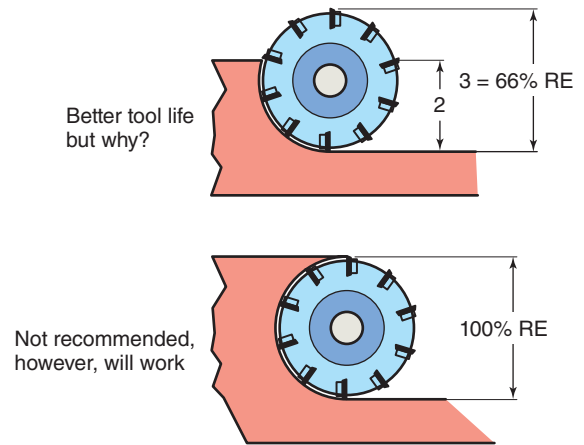

Figure 12-3 Radial engagement is an important part of the face mill setup.
Arguably the most basic operation of all is a face cut. The cutter is lowered below the surface of the work to the **depth of cut (DOC)**, then set to engage the work at a given portion of its diameter, called **radial engagement (RE)** (Fig. 12-3). The RE is expressed as a percentage of the cutter's diameter that is in contact with the work. The upper illustration in Fig. 12-3 has a 2 to 3 radial engagement (66 percent). The cut width is about two thirds of the total it could cut.
While it's possible to use a 100 percent radial engagement for a face cut (Fig. 12-3), for tool life and finish, during face cutting it's desirable to keep RE below 66 percent.
Study Fig. 12-3 carefully, and see if you can solve the puzzle of why there is the difference in tool life and finish for the 66 percent RE compared to the 100 percent RE. The answer won't be fully discovered until the end of Unit 12-5.